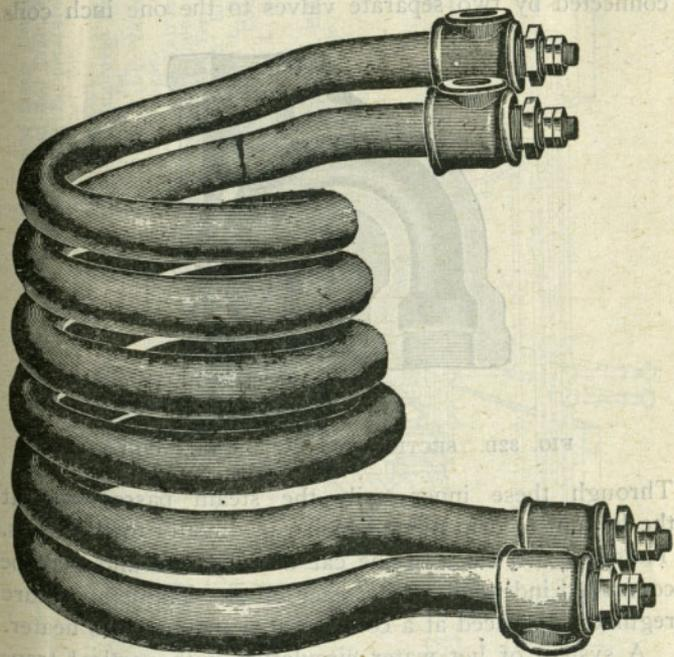
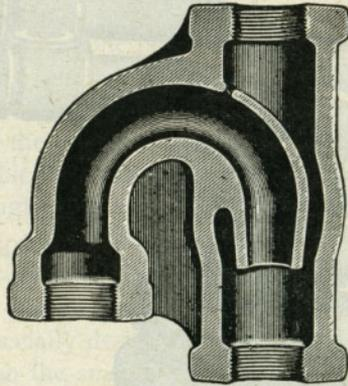

FIG 32A. DUPLEX COILS.
FIG. 32B. SECTIONAL VIEW DUPLEX COILS.
**Gold's Improved System of Hot Water Circulation:** Two duplex coils are placed in a Baker or similar heater as shown in Figure 32a. The outer and inner pipes end in fittings specially designed for the purpose. As shown in Figure 32b the smaller pipe passes through the entire length of the larger pipe and extends a short distance beyond it. When the circulating pipes are filled, water occupies the space between the outside of the smaller pipe and the inside of the larger pipe. If fire is used the water is heated by direct contact of the outer pipe, but when steam is used it is heated by the inner pipe. Steam can be used independently of the fire or both may be used at the same time. The convenience of this arrangement is not only its adaptability, but likewise the ease with which cars may be piped for this system.